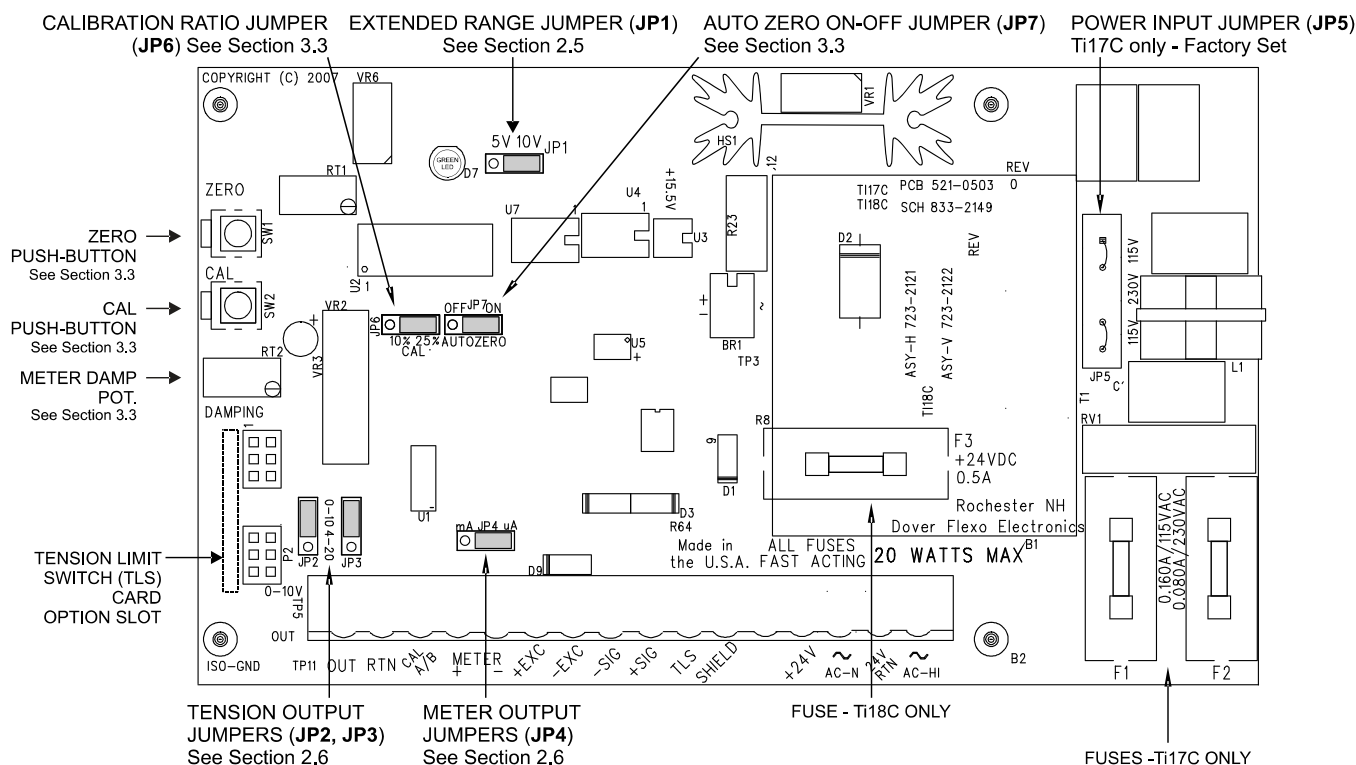

Figure 12 - Ti17C and/or Ti18C PC BOARD (enlarged for clarity)
3. **METER DAMPING:** If the optional analog meter is used, adjust the MTR DAMP potentiometer while the machine is running to minimize needle movement. Damping only affects the 0-1mA meter output and not the 0-10Vdc or 4-20mA isolated outputs. (See Fig. 12).
5. **AUTO-ZERO:** If you want the unit to automatically re-zero every time power is applied, move jumper JP7 to pins 2-3 (Auto-Zero ON). The default is Auto-Zero OFF (JP7 Pins 1-2). (See Fig. 12).
The green status LED (located to the left of JP1-ref. Fig 12, pg. 13) indicates the operating status of the unit. It should be on steadily within one second of power application. The green status LED should not be flashing during operation except when pressing ZERO or CALIBRATION pushbuttons (LED will flash once indicating acceptance of ZERO or CAL). Continuous flashing is an indication of a problem, contact DFE technical support if this condition is observed.